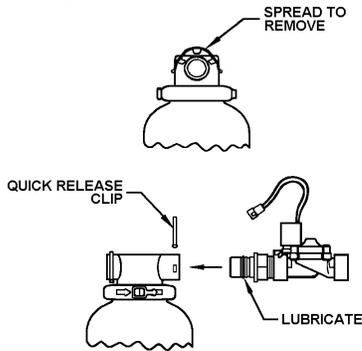

Figure 1.
2. Remove quick release clip and plugs (factory installed) from INLET and OUTLET of UV head. Lubricate o-ring on solenoid valve assembly with silicone grease and insert into INLET port. Insert nipple with flow control inside into OUTLET port. Make sure assemblies are fully inserted into head before reinstalling quick release clip. See Figure 1.